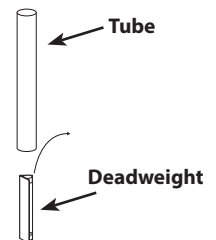

FIGURE 24 (LP Models)
- ### 16b. For LP Models: remove deadweight from main vent assembly on rear of fryer by lifting tube. Deadweight is under tube. (See Figure 24). Rinse deadweight and tube (inside and out) with hot water at sink. Towel dry. Reassemble Deadweight and tube. Check O ring where vent tube connects.